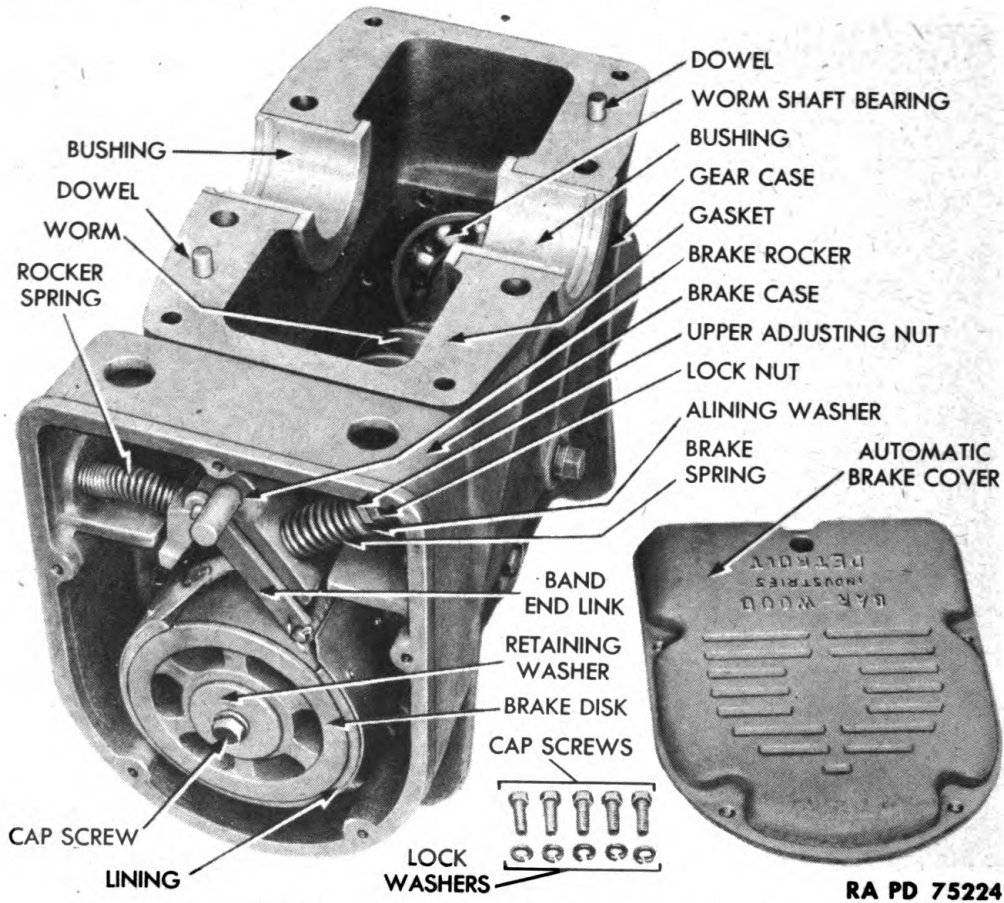

Figure 24 – Automatic Brake and Gear Case
c. **Remove Automatic Brake Assembly (fig. 24).** Remove cap screws and lock washers that hold cover on brake case, and remove cover. Remove cap screw, lock washer, and retaining washer that hold brake disk, then pry off rocker spring. Use a puller, and remove brake disk with automatic brake as an assembly.
48. ASSEMBLE FRONT-MOUNTED WINCH (fig. 24).